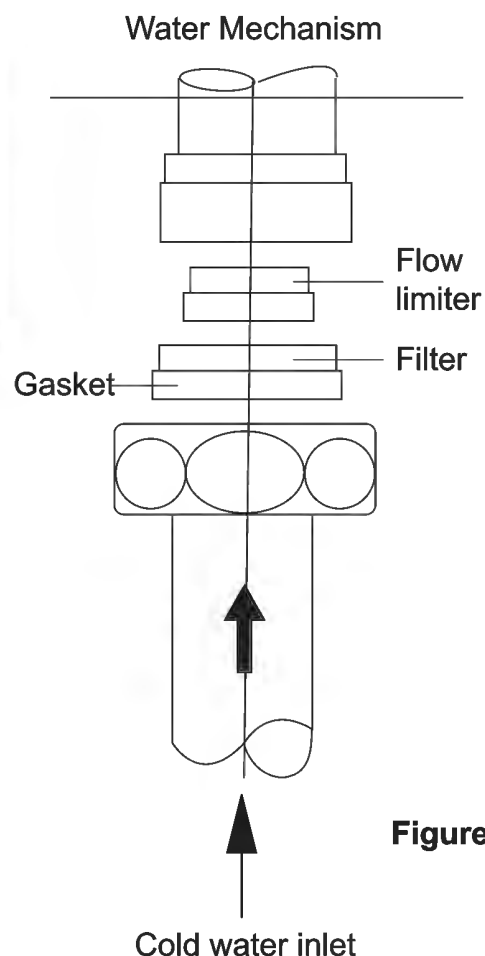

Figure 9
- Fit the flow restrictor and filter to the cold water inlet as shown in Fig 9.